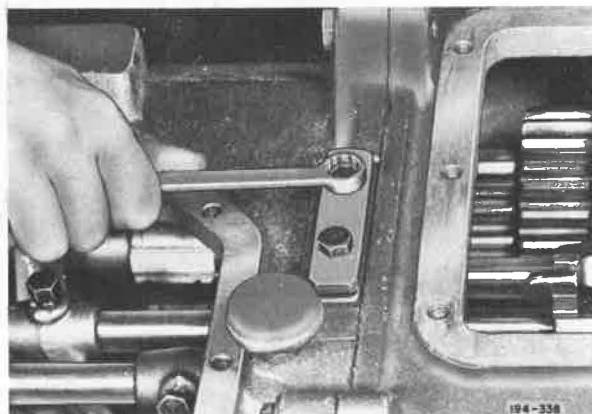

Figure 5-551. Installing Cover
27. Install poppet ball cover with capscrews, and tighten to recommended torque. See Figure 5-551. Refer to Torque and Tolerance Table, Item 4.